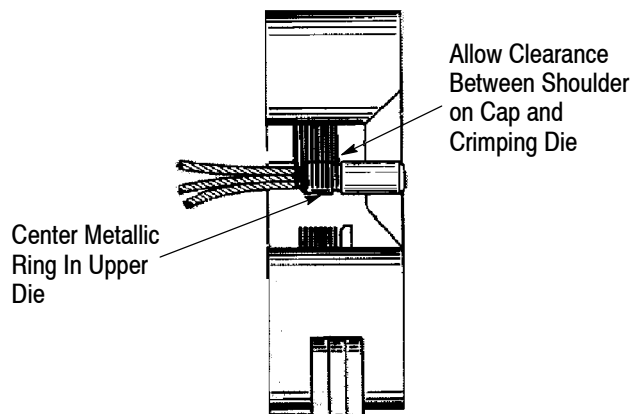

Figure 3
5. Center the ring on the insulating cap in the upper die as shown in Figure 3. Allow clearance between the shoulder on the cap and the crimping die.